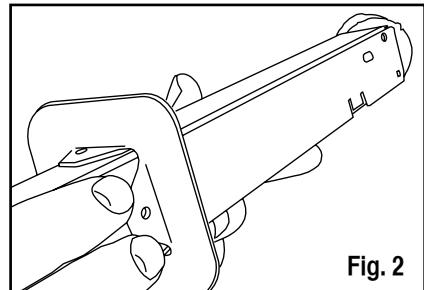

Fig. 2
3. Slide provided gasket over end of pathway and insert through opening in the wall (See Fig. 2).